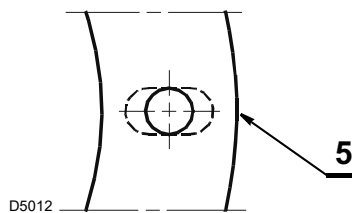

Fig. 10
- if necessary, widen the insulating gasket holes 5)(Fig. 10), taking care not to damage them.